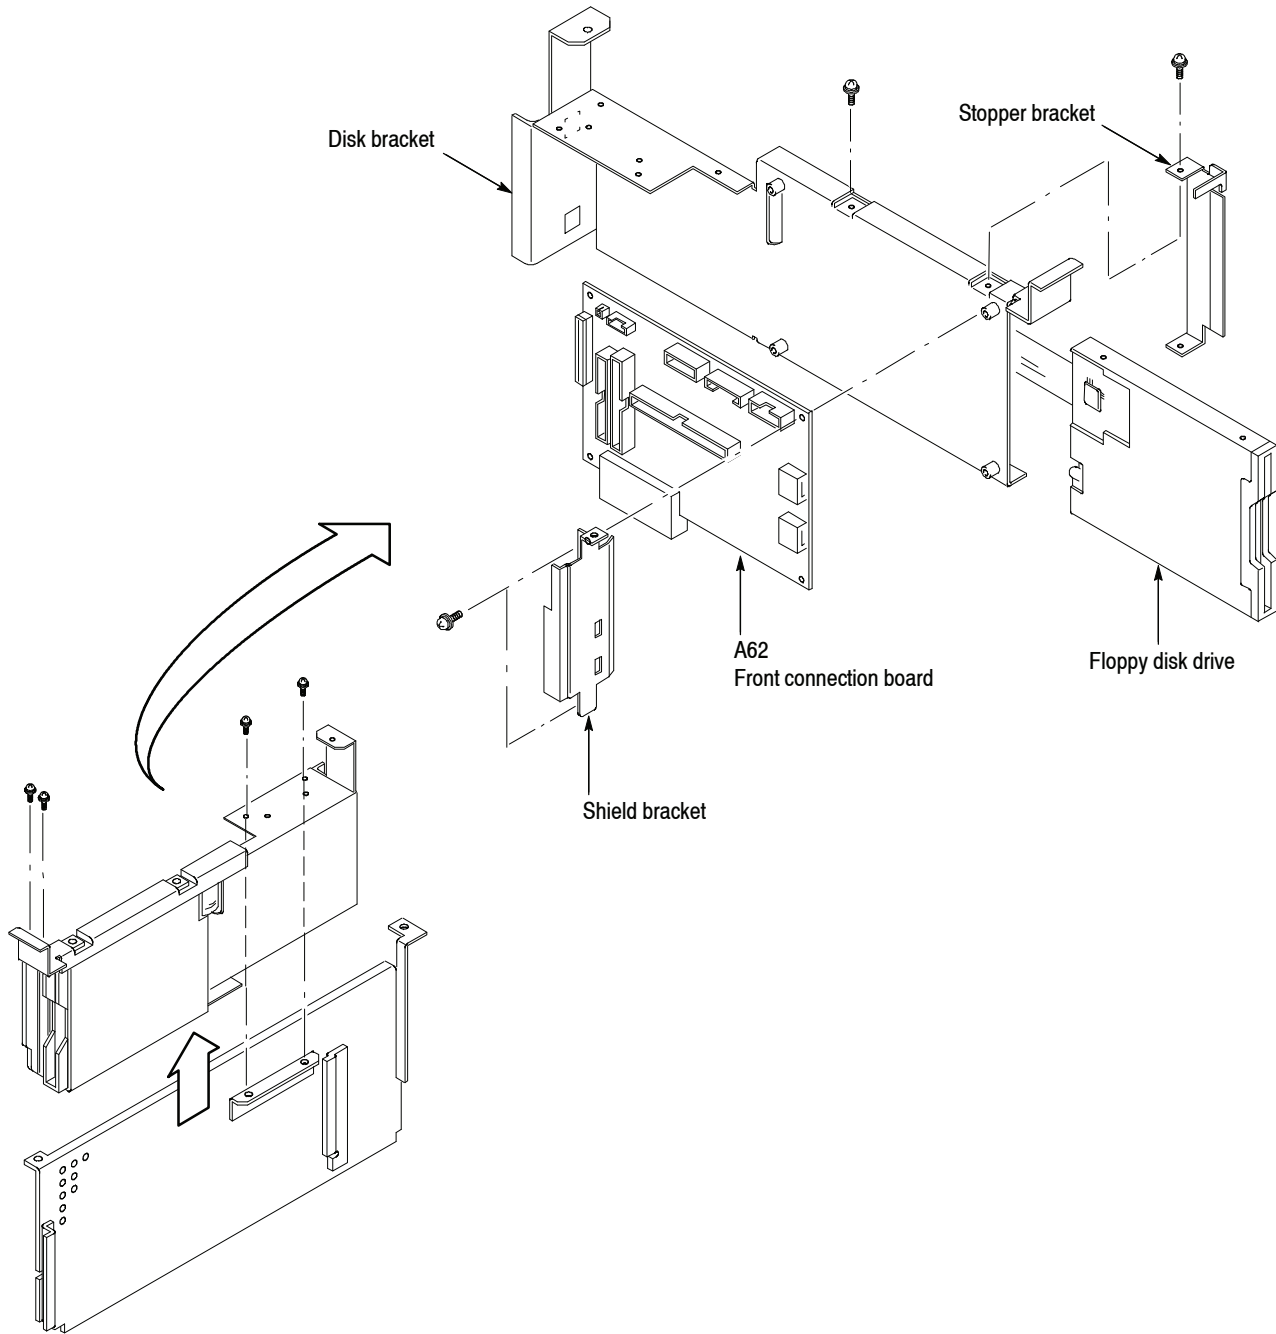

Figure 6-21: Disk unit removal
8. *Remove the disk unit:* See Figure 6-21.
9. *Remove the floppy disk drive:* See Figure 6-21.
10. *Remove the A62 Front connection board:* See Figure 6-21.